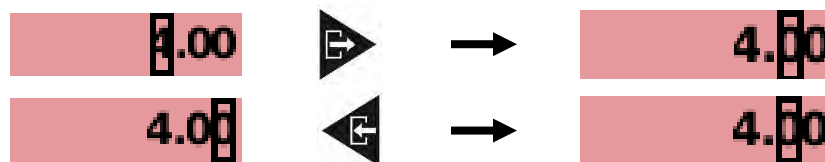

Figure 4.17
4. Use the “Left” and “Right” buttons to select a different digit as shown in **FIGURE 4.17**: